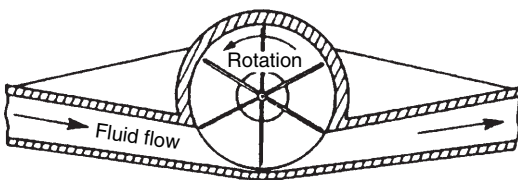

Figure 22.8
- (b) **Rotary vane positive displacement meters** measure the flow rate by indicating the quantity of liquid flowing through the meter in a given time. A typical such device is shown in section in Figure 22.8 and consists of a cylindrical chamber into which is placed a rotor containing a number of vanes (six in this case). Liquid entering the chamber turns the rotor and a known amount of liquid is trapped and carried round to the outlet. If x is the volume displaced by one blade then for each revolution of the rotor in Figure 22.8 the total volume displaced is $6x$. The rotor shaft may be coupled to a mechanical counter and electrical devices which may be calibrated to give flow volume. This type of meter in its various forms is used widely for the measurement of domestic and industrial water consumption, for the accurate measurement of petrol in petrol pumps and for the consumption and batch control measurements in the general process and food industries for measuring flows as varied as solvents, tar and molasses (i.e. thickish treacle).